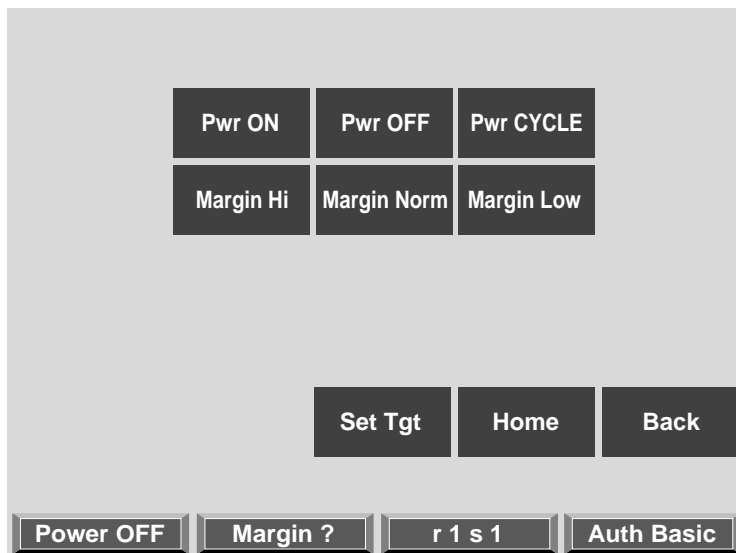

Figure 4-8 Power Window
5. Select **Set Tgt** from the Power window when it appears (see Figure 4-8); then select the bricks you want to power on.